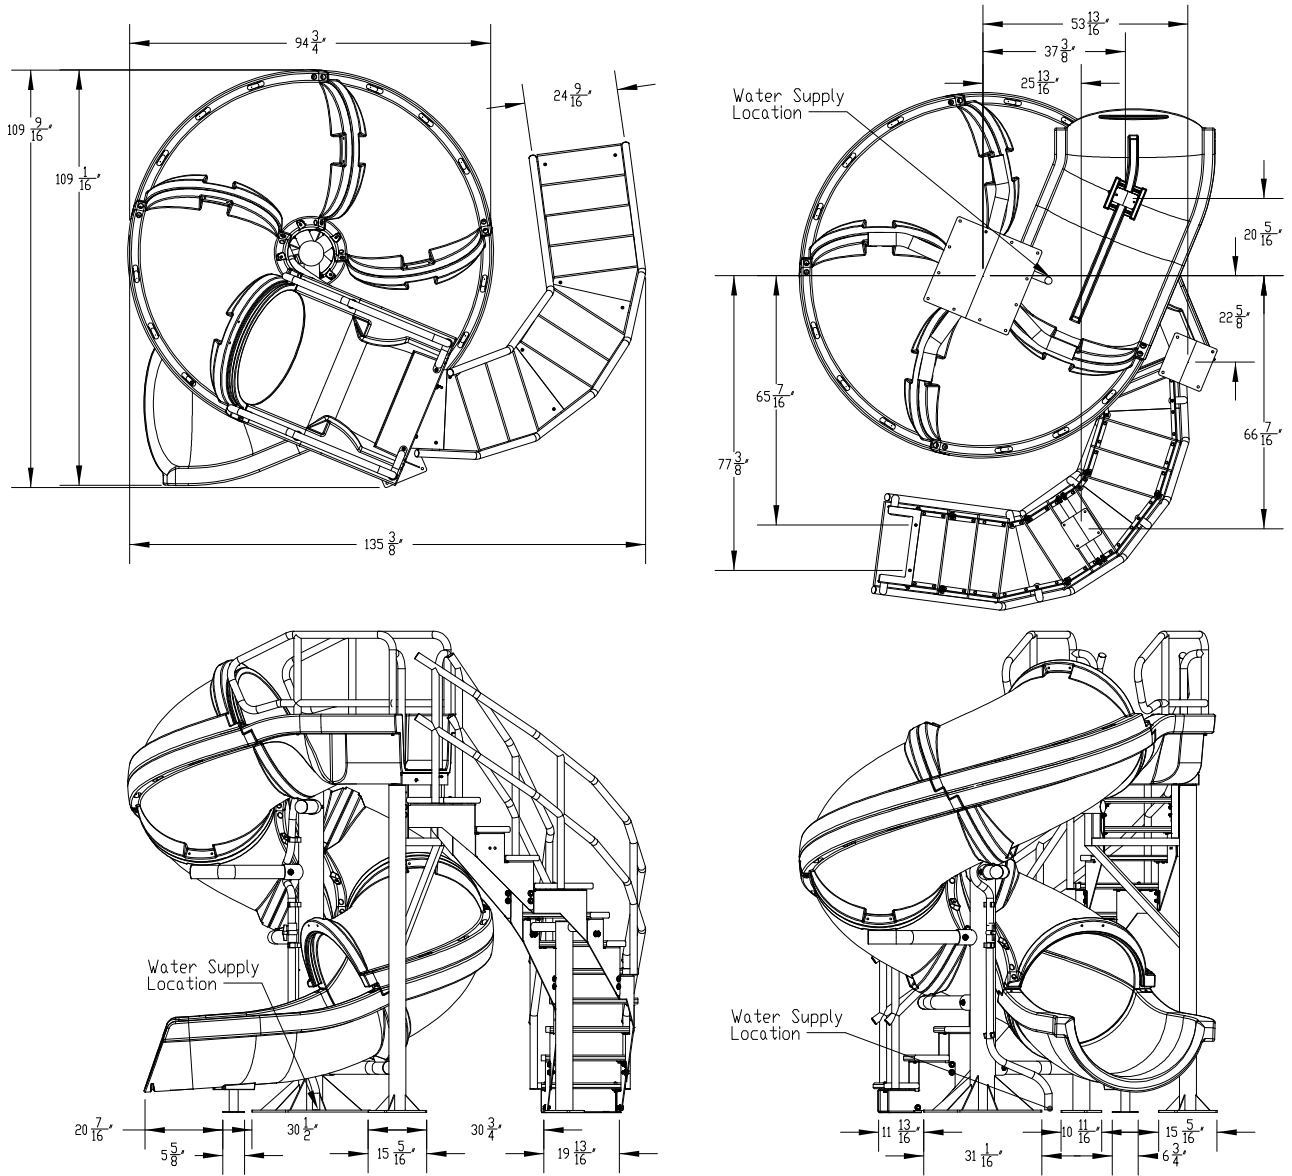

FIGURE 1
1) First, insert all five of the Branch Arms (4) into the Main Support (5). Ensure that the arms slide into the support sockets without damaging the powder coating. Align the holes in the main tube support with the holes in the branch arm and attach using the hardware shown in Figure 1. The required hardware is as follows: $\frac{1}{2}$ " – 13 x 5" Hex Head Cap Screw (15), $\frac{1}{2}$ " Flat Washer (17), $\frac{1}{2}$ " Nylon Washer (22), and $\frac{1}{2}$ " Nylon Washer (22), $\frac{1}{2}$ " Flat Washer (17), $\frac{1}{2}$ " Lock Washer (18), $\frac{1}{2}$ " Hex Nut (20) on the other side of the support. **It is important not to tighten the hardware at this point. ANTI-SEIZE NEEDS TO BE USED ON ALL BOLTS, and should be applied to the threading before attempting to place the nut on the bolt.**